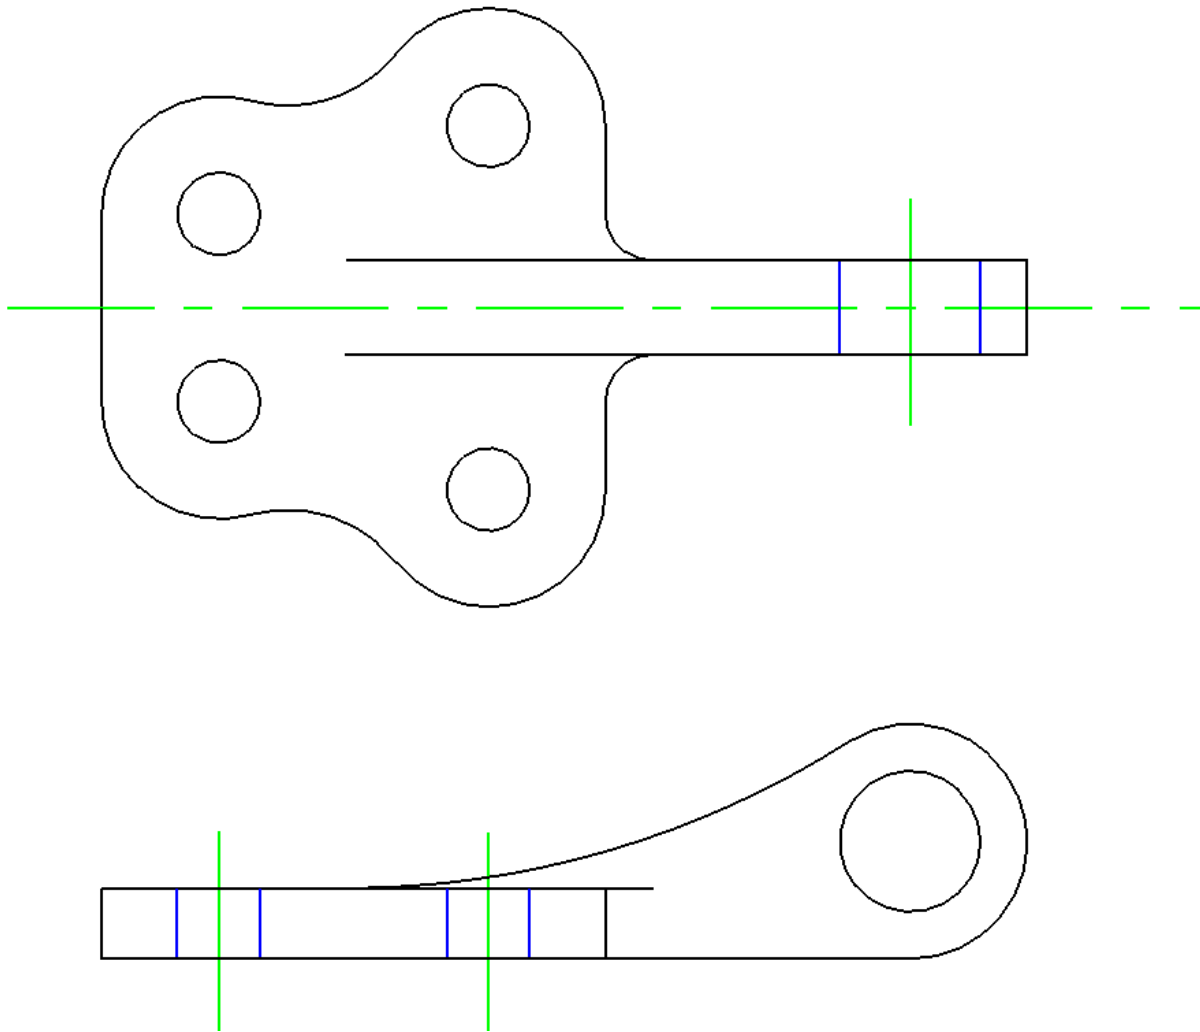

Figure 10.35 – The Bracket Problem
Figure 10.35 shows the complete display of a properly drawn Bracket problem for your preview.
*** World Class CAD Challenge 22-21* - Create a New file using the Metric template, and draw the 39 entities shown in Figure 10.35 in 3 minutes 15 seconds. Continue this drill four times, each time completing the drawing under 3 minutes 15 seconds to maintain your World Class ranking.**